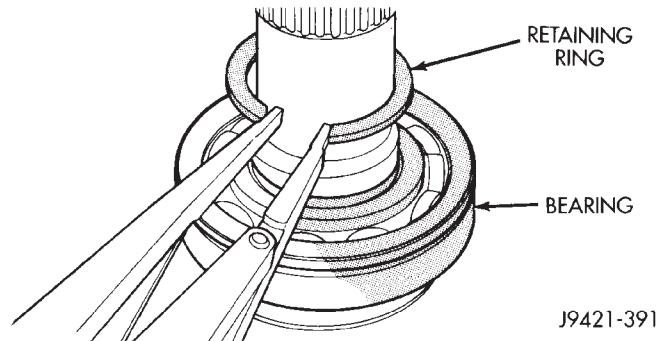

Fig. 28 Output Bearing Snap Ring Removal
(14) Remove rear output bearing retaining ring from mainshaft (Fig. 28).